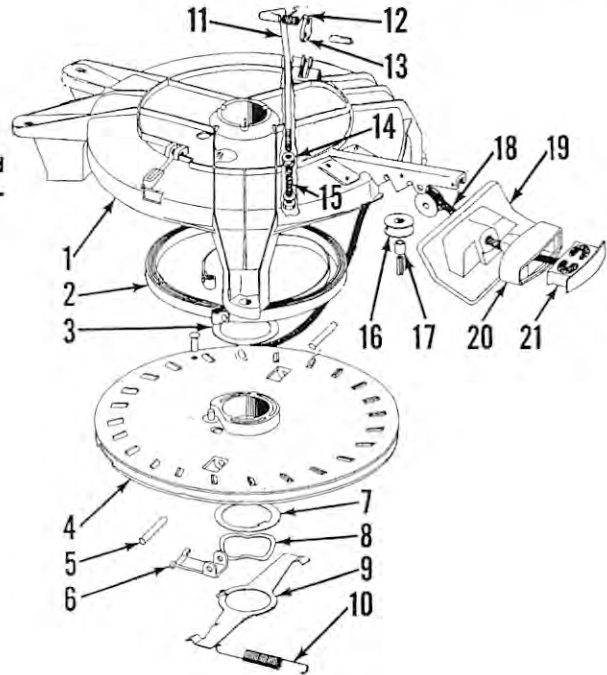

**Fig. Mc136** — Suggested method of adjusting crankshaft end play on three cylinder motors. Refer to text.
Mc129) located under the upper bearing cap flange. The recommended end play is 0.008-0.012. When assembling the motor, install the front crankcase half and install and tighten the lower bearing cap (14). Refer to Fig. Mc136. Position the upper bearing cap (8) without the shims. While holding cap firmly in place, measure the clearance (S) between flange and crankcase, using a feeler gage. Use shims equal to the measured thickness plus 0.010. Shims are available in thicknesses of 0.005, 0.010 and 0.020.